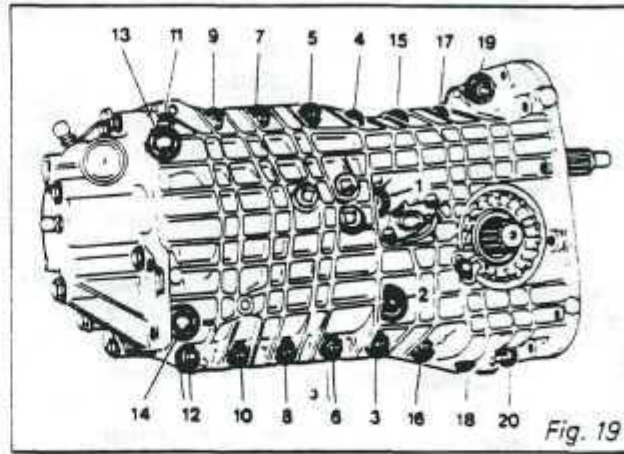

Fig. 19
16. Torque tighten the half-case bolts in the proper sequence as shown. (Fig. 19)